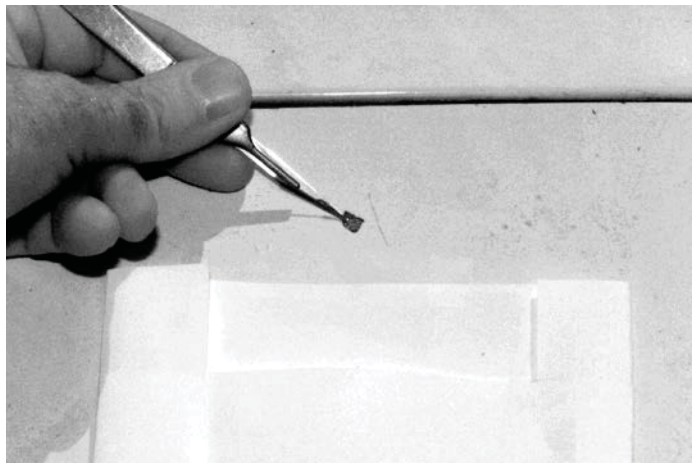

Figure 16—Obtaining Paint Chip Samples
- a. A good method for obtaining paint from vehicles, walls, and similar locations is to place a short strip of tape on one side of a paper packet and attach it to the object containing the specimen. Paint can be chipped loose into the envelope or package with a clean knife blade or razor blade. (See Figure 16.) Be sure to recover all paint layers down to the base material.